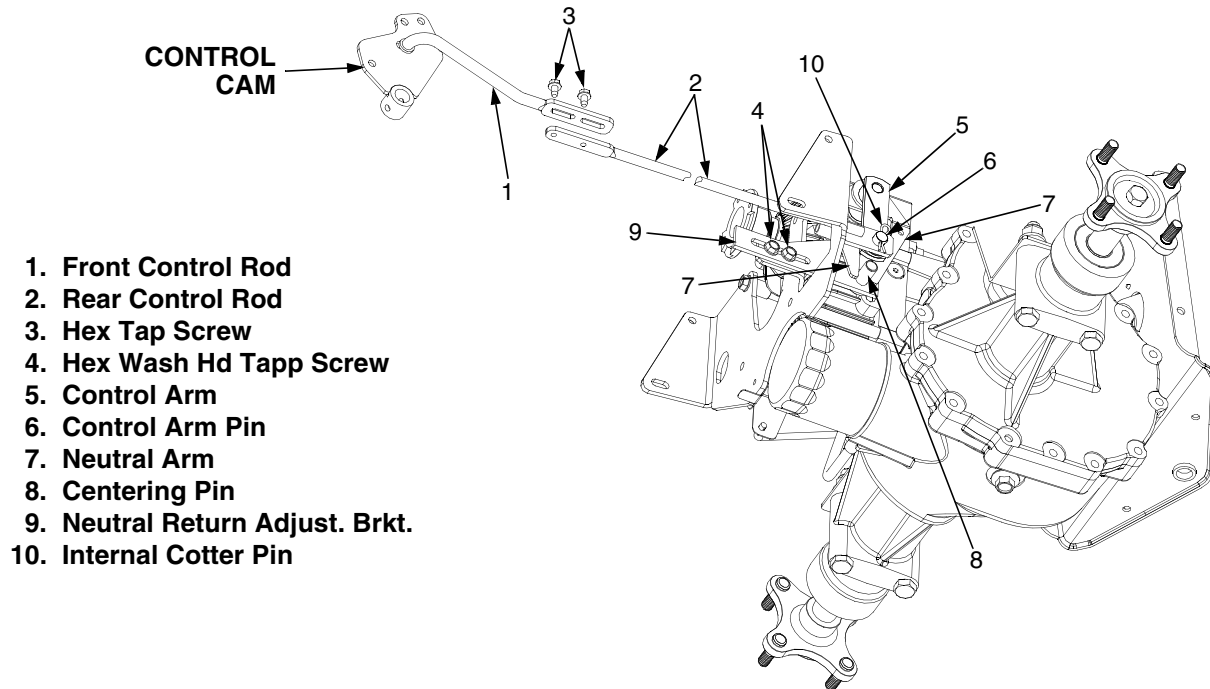

Figure 16
- If wheel rotation is observed, refer to Figure 16 and adjust the neutral setting as follows:
- Disconnect the rear control rod (2) from the control arm (5) by removing the internal cotter pin (10) from the control arm pin (10).
- If wheel rotation continues, loosen the two hex wash. hd. tapp screws (4) securing the neutral return adjustment bracket (9).
- If the rotation is in the *forward* direction, slide the neutral return adjustment bracket w/ centering pin (8) rearward until the wheels just begin to rotate in the *reverse* direction. Then slowly slide the neutral return adjustment bracket w/centering pin slightly forward until wheel rotation stops.
- Carefully tighten the hex wash. hd. tapp screws (4), making certain the neutral return adjustment bracket does not move.
After completing the previous steps (1 thru 4) for checking neutral setting, refer to Figure 16 and adjust the control rod as follows: